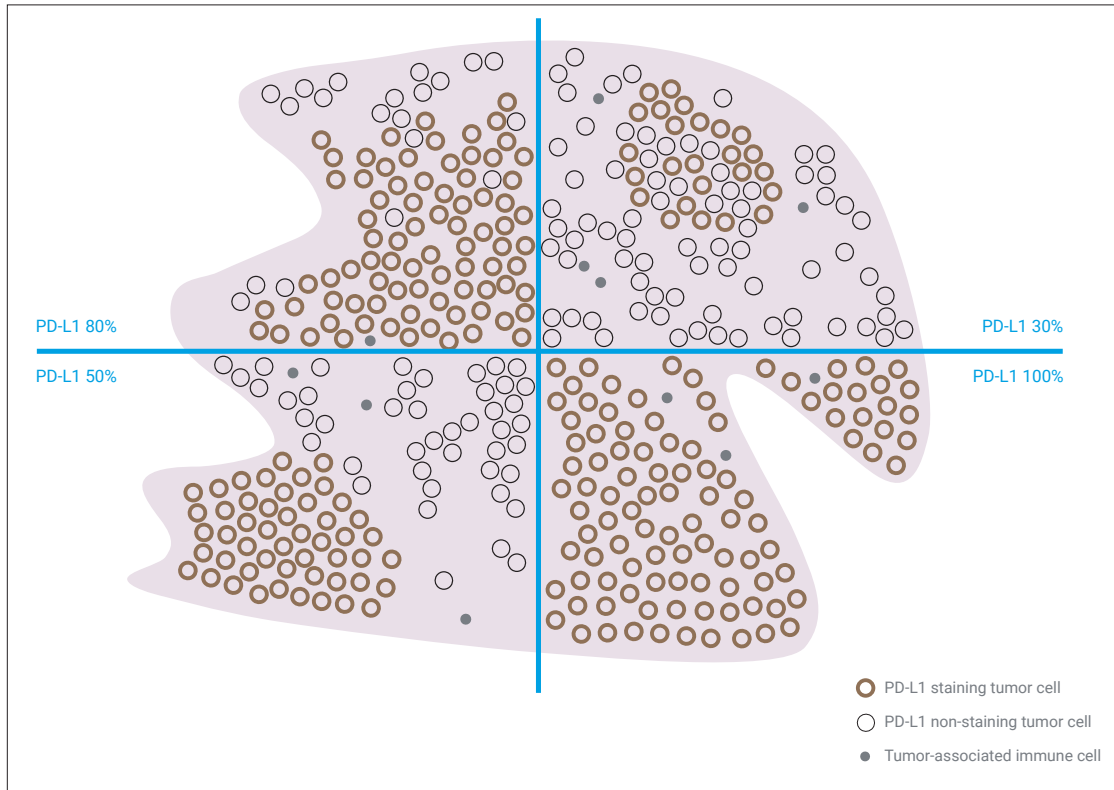

Figure 7. Example with heterogenous PD-L1 staining area.
- The tumor area is divided into four equivalent quadrants in Figure 7.